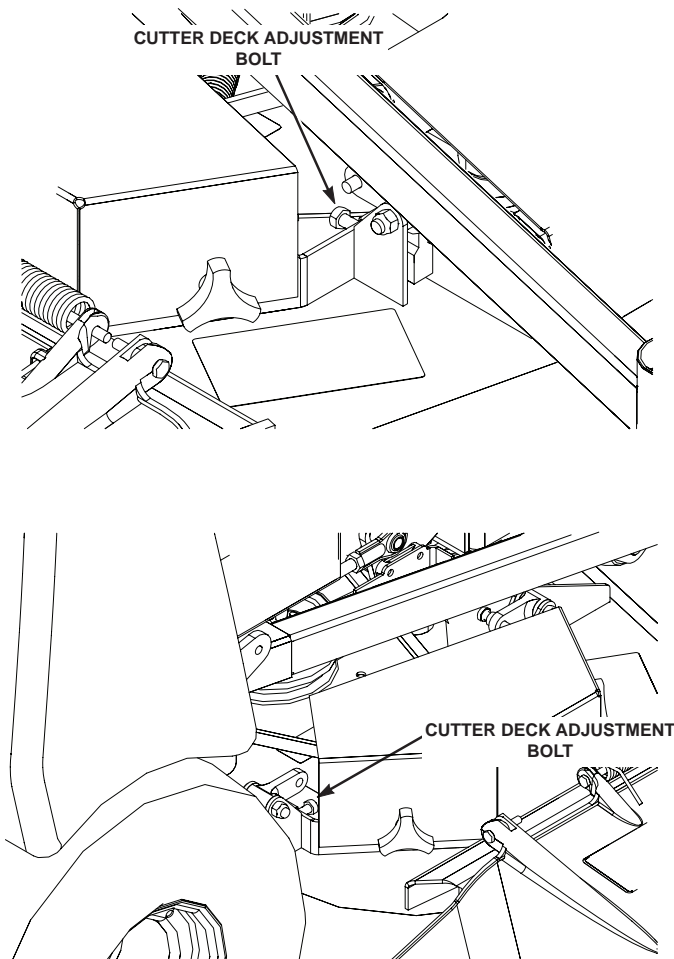
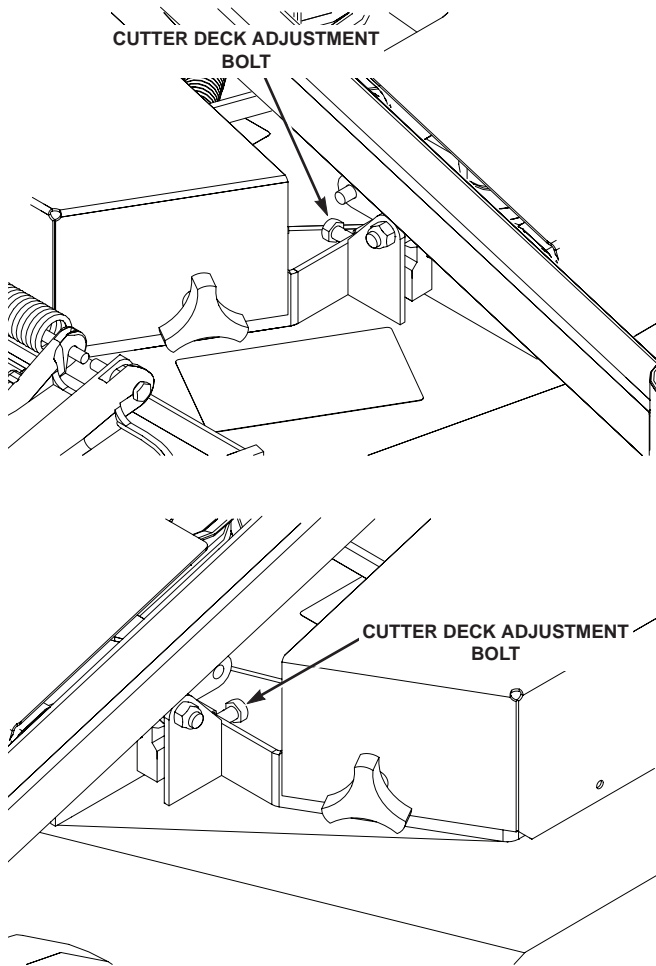

Figure 6-4. Cutter Deck Level Adjustment
Figure 6-5. Cutter Deck Pitch Adjustment
1. On the front RH side of the cutter deck locate the cutter deck adjustment levers. Loosen the elastic stop nuts securing the cutter deck adjustment levers on the front and rear of the cutter deck. See Figure 6-4.
1. Loosen the elastic stop nuts securing the deck level links on front of the cutter deck on both sides See Figure 6-5.
A. Loosen the elastic stop nuts securing the deck level links on front of the cutter deck on both sides (See Figure 6-4 and Figure 6-5 for Cutter Deck Adjustment Lever Location).